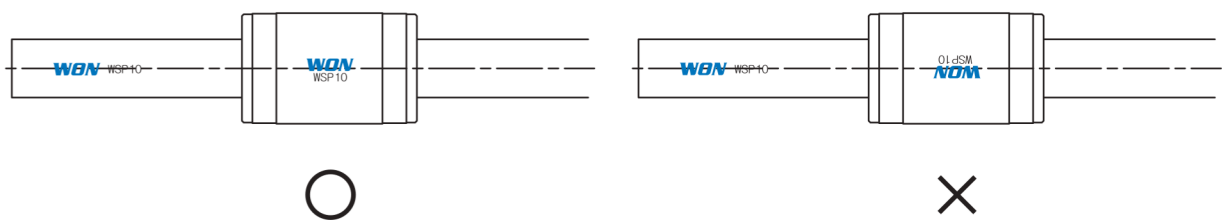

Figure 10.
- ① WON's Ball Spline can be used in an environment up to a temperature 120°C, and up to 80°C for continuous use. Please inquire to WON for the application exceeding the temperature 80°C
- ② WON's Ball Spline has an optimum precision of adjustment at the same portion of both symbols of spline shaft and nut. (refer to fig. 10) When ball spline is installed in a machine, it is necessary to pay attention to keeping steering both nut & ball spline, the arrangement of nut and the steering direction.
- ③ In case that 2 nuts and more are used per shaft and so 2 keys and more is used on the rotational direction of outside fixing, the location of nut key ways should be parallel. For this case, please inquire to WON